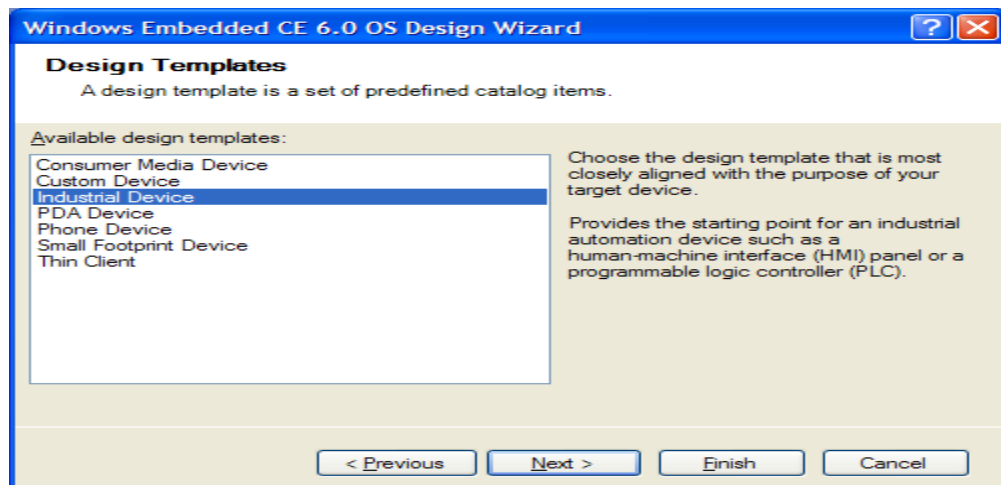

Figure 41. Windows Embedded CE 6.0 Design Wizard
4. In the design templates selection step, select Industrial Device as shown in figure 41.